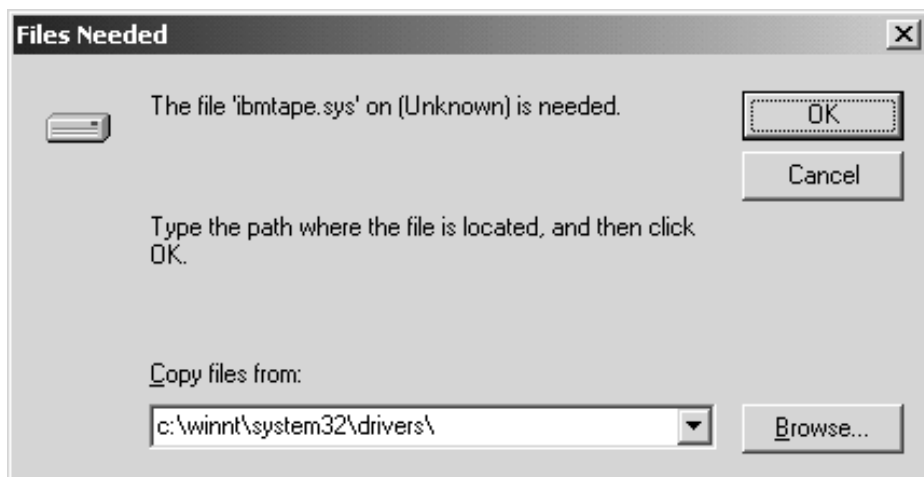

Figure 31. Files Needed Menu
13. Windows 2000 should now ask for the location of your Ultrium device driver files. Enter the location of your device driver files in the **Copy files from:** box in the Files Needed window. See Figure 31.